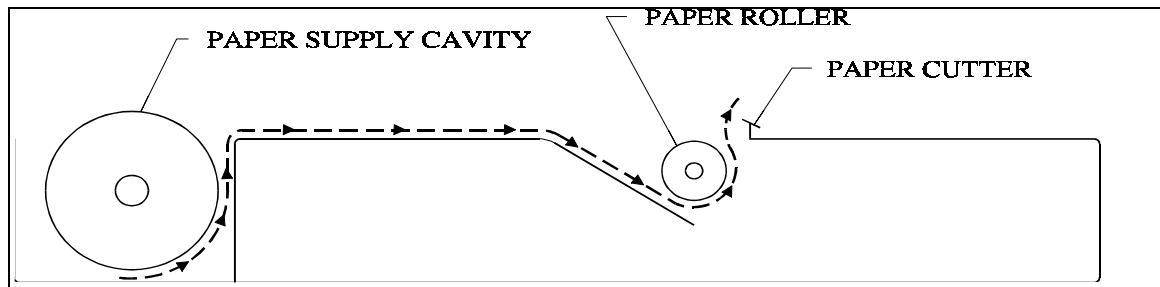

Figure 6-1 RA500 Paper Feed Diagram
4. Feed the end of the paper as shown in Figure 6-1, into the paper receiver cavity. The paper should slide under the roller and not the front side. When you see the paper advance out the front of the unit, pull it so that at least two inches are above the test bar.